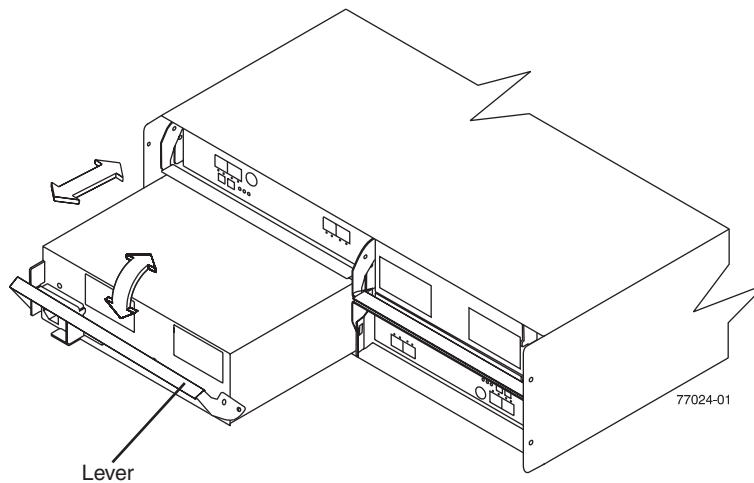

Figure 25. Replacing a power supply and fan unit
**Attention:** Be sure that the lever is pulled straight out as you slide the power supply and fan unit into the storage expansion enclosure, as shown in Figure 25. The left and right power supply and fan units are seated in the EXP810 chassis in opposite orientations. If you cannot fully insert the power supply and fan unit into the power supply and fan unit bay, flip it 180° and reinsert it.
**Attention:** Be sure that the lever is pulled straight out as you slide the dc power supply and fan unit into the storage expansion enclosure, as shown in Figure 25 on page 44. The left and right dc power supply and fan units are seated in the EXP810 chassis in opposite orientations. If you cannot fully insert the dc power supply and fan unit into the dc power supply and fan unit bay, flip it 180° and reinsert it.